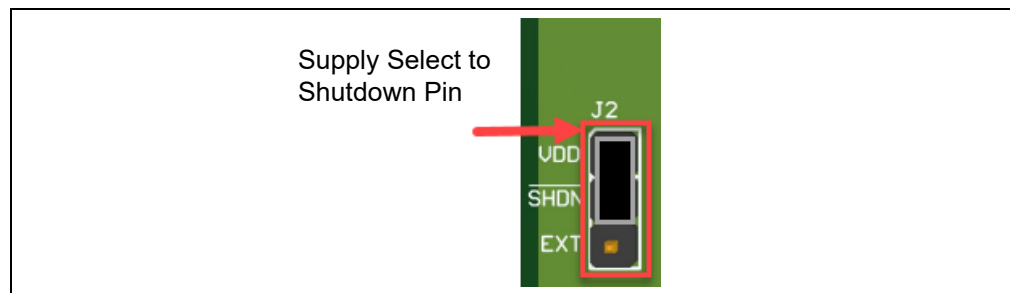
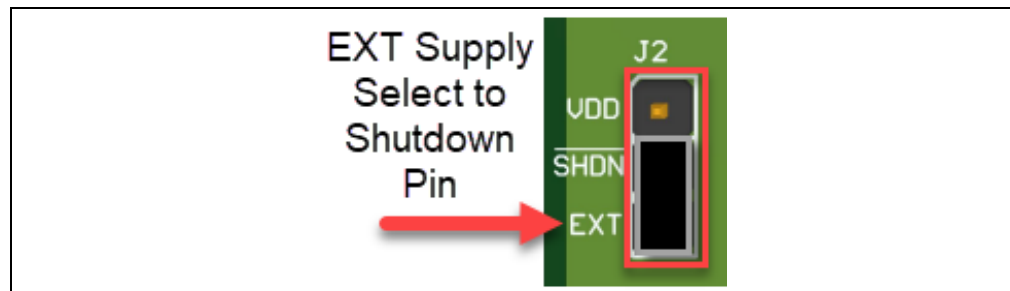

FIGURE 2-3: VDD to Shutdown Pin Connection.
FIGURE 2-4: EXT to Shutdown Pin Connection.
2. Connect the jumper between VDD and $\overline{\text{SHDN}}$ (J2 connector) to provide supply at the MCP1502-XX Shutdown pin, as shown in Figure 2-3. The J2 connector provides the opportunity to select between VDD and EXT supply for the Shutdown pin of the MCP1502-XX. Figure 2-4 shows a connection to the EXT supply.